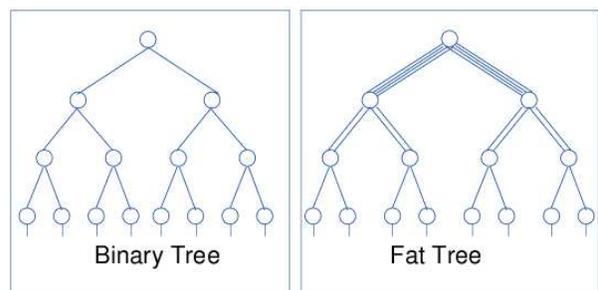

Figure 8: A binary tree and a Fat Tree
- A **fat tree switch** has more bandwidth added higher in the tree to match the requirements of common communication patterns. This makes the network have constant bandwidth at all levels. It must be noted that the switching nodes do not have full crossbar-like connectivity. Refer figures 8 and 9.